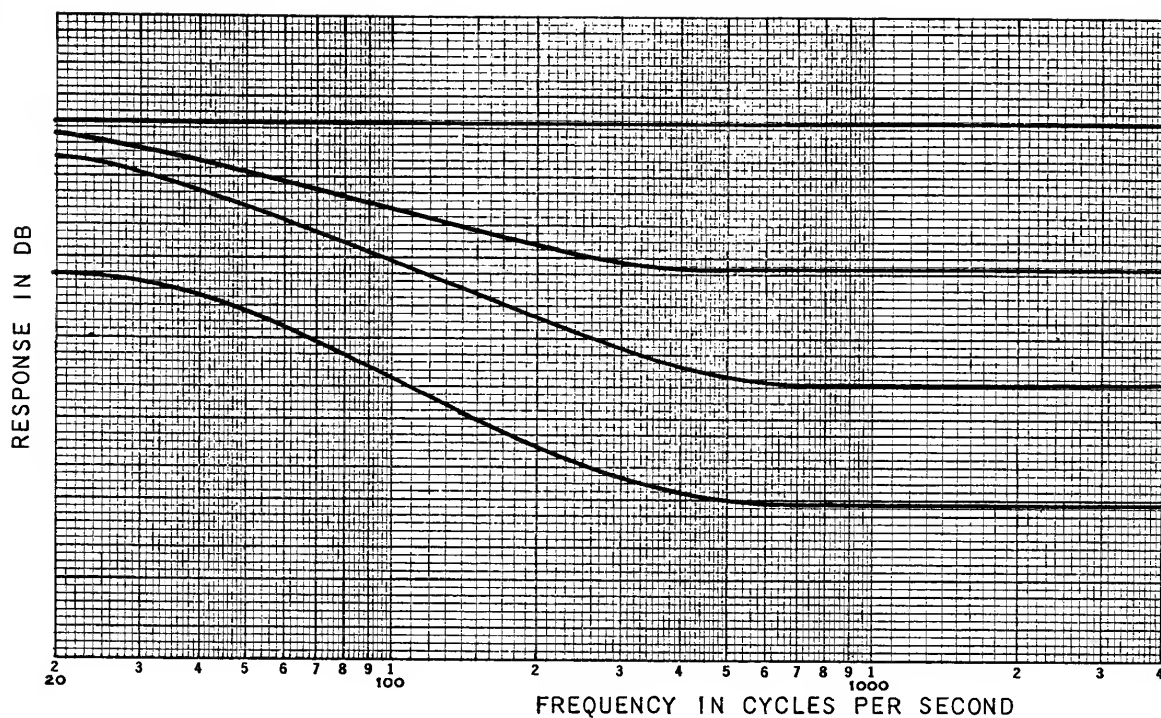

FIGURE 3-4 LOUDNESS COMPENSATION
- 2.1.7 TONE CONTROLS — MIN.— ± 18 db at 20 CPS; ± 16 db at 20,000 CPS. See curves in figure 3-4.
Loudness compensation is achieved by tapping the VOLUME CONTROL and shunting higher frequencies to ground, as shown in the simplified schematic, figure 3-4.
3.2.5 Bass and Treble Controls.—The BASS and TREBLE controls vary the frequency at which boost or cut begins. For lowest possible distortion, tone control equalization is achieved by feedback rather than passive networks. Figure 3-4 shows the equivalent circuit of the tone control network and amplifier. When the tone controls are set in a flat position, the overall circuit gain is one.